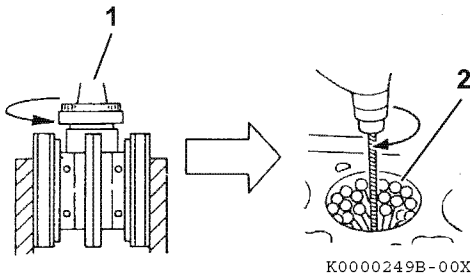

Figure 6-79
2. **Honing** - Minor cylinder imperfections may be corrected by using a rigid cylinder hone (Figure 6-79, (1)). Be sure not to exceed the maximum cylinder bore specification.
Deglazing - A used cylinder that did not require boring or honing should always be deglazed with a ball hone (Figure 6-79, (2)) before installing new piston rings. This will properly prepare the cylinder surface to allow new piston rings to seat properly.
- Use a 300-grit hone at 300 to 1200 rpm (min⁻¹) (Figure 6-79).